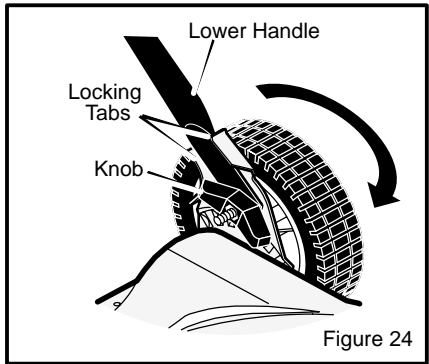

Figure 24
2. Loosen the knobs on the lower handle (Figure 24). Push in on the ends of the **lower handle**. Move the ends of the **lower handle** past the **locking tabs**.